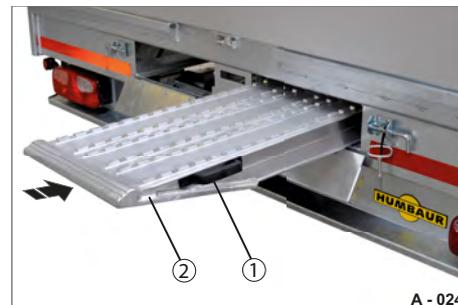

Fig. 30 Sliding in the ramp planks
- ▶ Slide the ramp planks (Fig. 30/2) from the rear fully into the ramp plank bay.